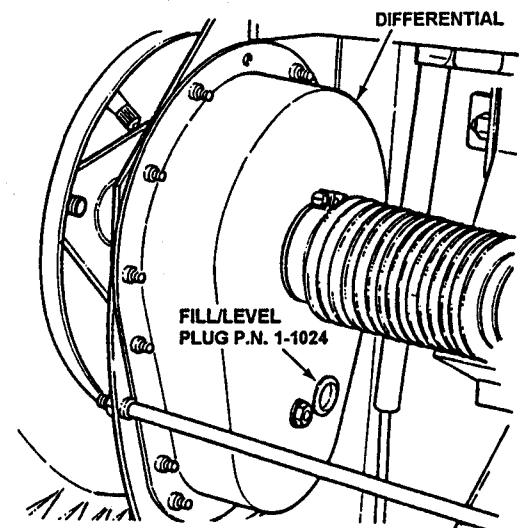

FIGURE 3.9
a. To check lubricant, stand Rear Engine Rider on its rear bumper, remove fill/level plug and visually inspect for lubricant. If lubricant is not seen, add just enough of SNAPPER "OO" grease to bring the level up to the bottom edge of the check hole. DO NOT overfill as excess grease will leak onto drive components and cause slippage. See Figure 3.9